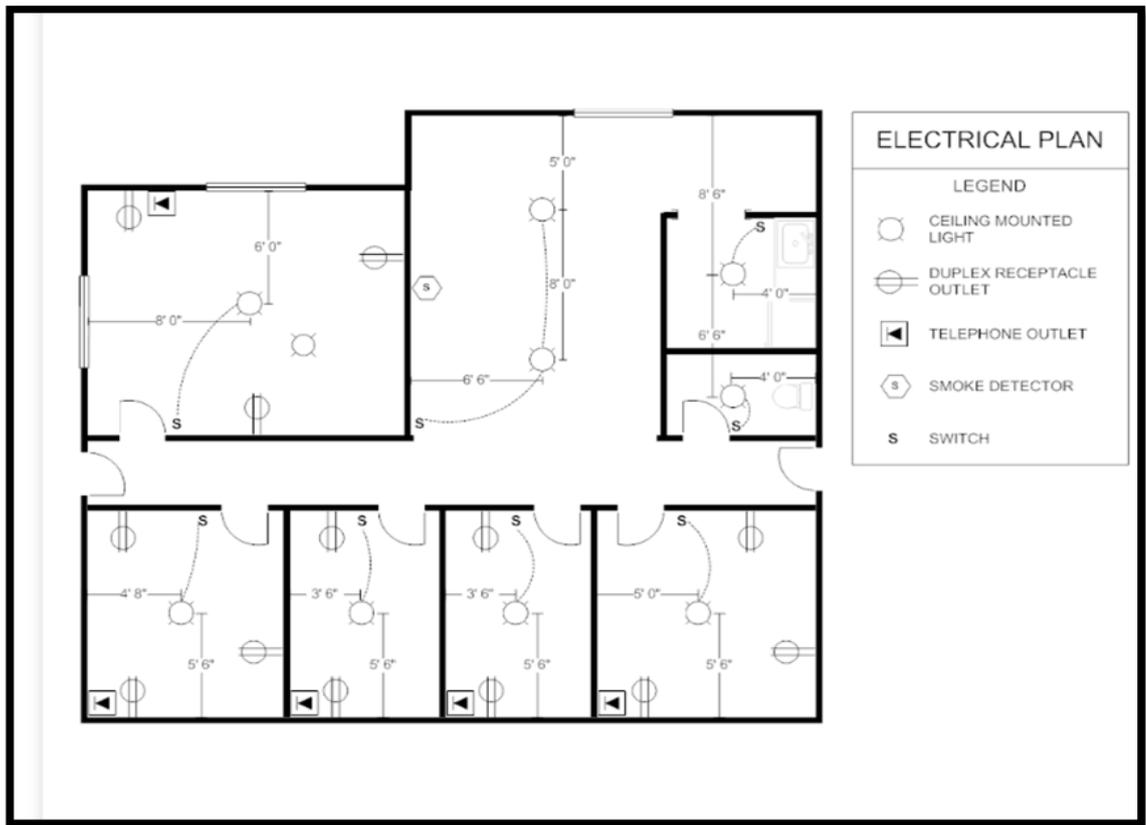

Figure B4 (c) / *Rajah B4(c)*
- CLO3 (c) In the construction industry, quantity measurement and taking off are crucial processes in project cost estimation. Each work item must be measured accurately based on the given plans and specifications. Errors in measurement can lead to budget overruns and affect project progress. Therefore, standard methods such as SMM (Standard Method of Measurement) are used to ensure accuracy and consistency in quantity preparation. Based on Figure B4(c), analyze the drawing and prepare the taking off for the following works: ceiling mounted light, duplex receptable outlet, telephone outlet, smoke detector, and switch.